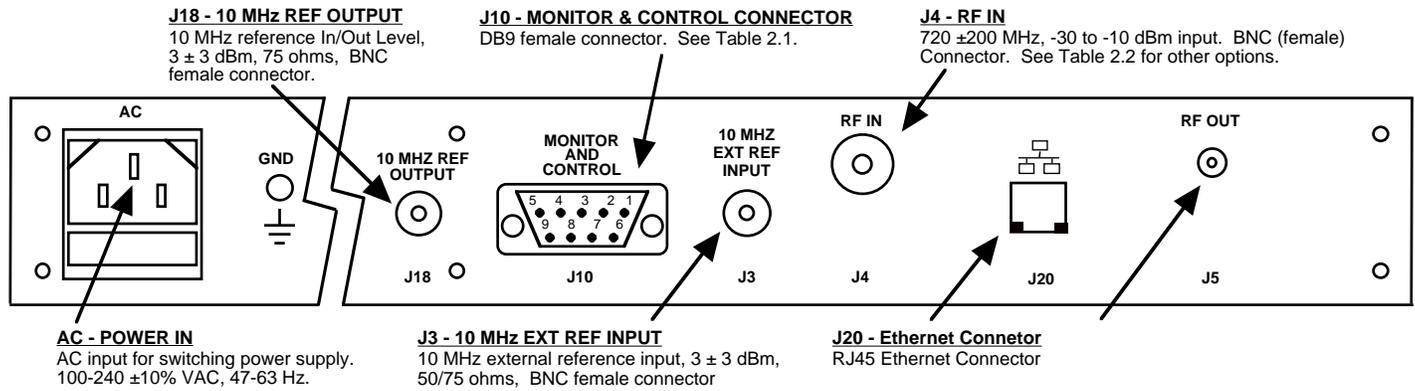

FIGURE 2.2 2015-7981-720-400 Rear Panel Inputs and Outputs
2.2 Rear Panel Input / Output Signals - Figure 2.2 shows the input and output connectors on the rear panel.
1. Connect a -30 dBm to -10 dBm, 70MHz signal to IF IN, J4 (Figure 2.2)
Alarm indications appear on the LEDs (see figure 2.2).